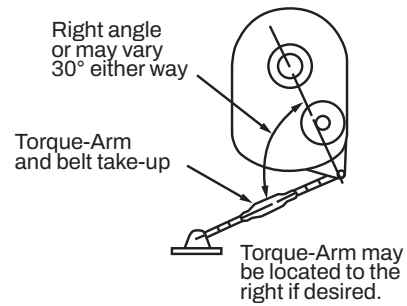

Figure 4
7. Install Torque-Arm fulcrum on a rigid support so that the Torque-Arm will be approximately at right angles to the center line through the driven shaft and the Torque-Arm anchor screw as shown in Figure 4. Make sure that there is sufficient take-up in the turnbuckle for belt tension adjustment when using V-belt drive.